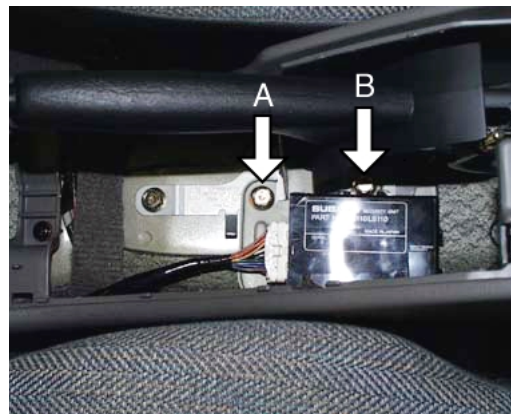

Figure 6
- Install the security module onto the bolt indicated by the arrow "B" which was loosened in step 5, then tighten the bolts indicated by the arrows "A" and "B" to 13 ± 3.6 ft. lbs. Refer to Figure 6.